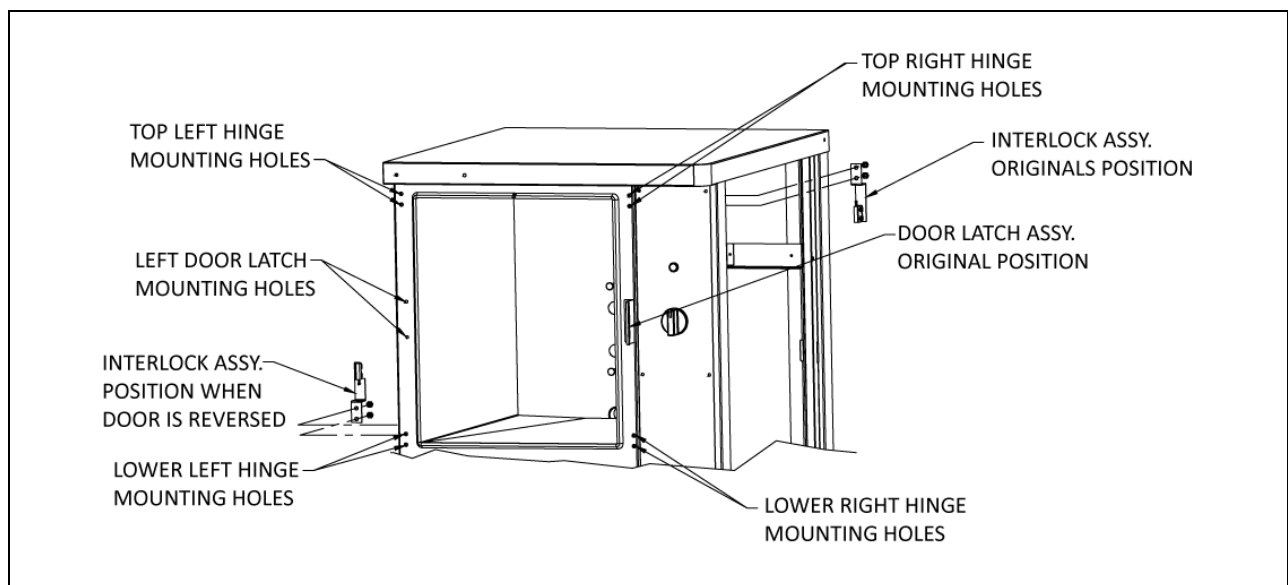

Figure 1, Typical Door Layout
7. Remove the door interlock assembly by unscrewing the two nuts that hold it in place (*assembly is attached to the screws in the top right hinge mounting holes, see Figure 1 on page 6*).
9. Using the nuts removed in step #6, reinstall the door interlock assembly onto the 2 screws in the lower left hinge mounting holes (*see Figure 1 on page 6*) with by moving the assembly over the cooking cavity to the other side of the unit. Rotate the door interlock assembly 180° for installation, so that the switch is now facing up.